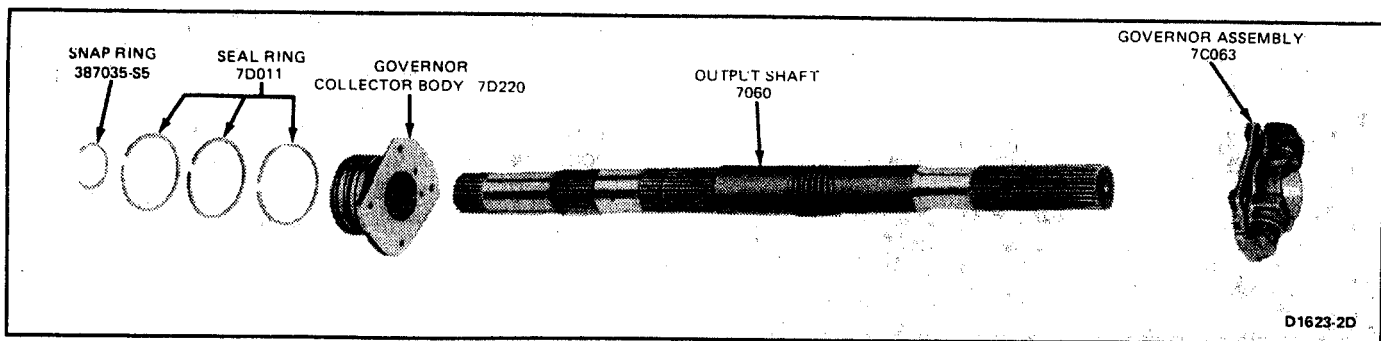

FIG. 29 Output Shaft Disassembled
2. Remove the snap ring that secures the governor oil collector body on the output shaft (Fig. 29) and slide it off the front of the shaft.
3. Position the governor assembly on the oil collector body (Fig. 29) and secure with the attaching screws. Tighten screws to 10.5-13.5 N·m (90-120 in.-lbs).